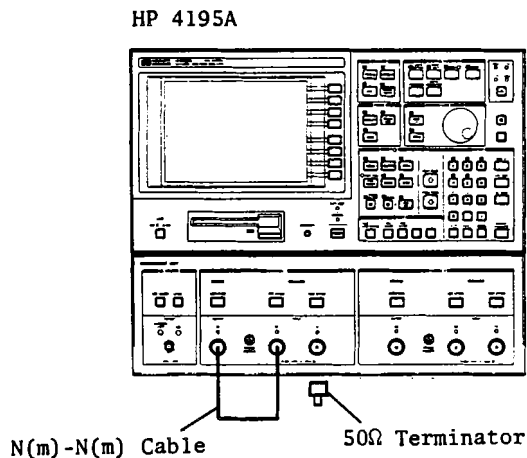

Figure 2-16. Crosstalk Test Setup
2. Connect an N(m)-N(m) Cable between HP 4195A **OUTPUT S1** and **INPUT R1**, and connect a 50  $\Omega$  Termination to **INPUT T1**, as shown in Figure 2-16.